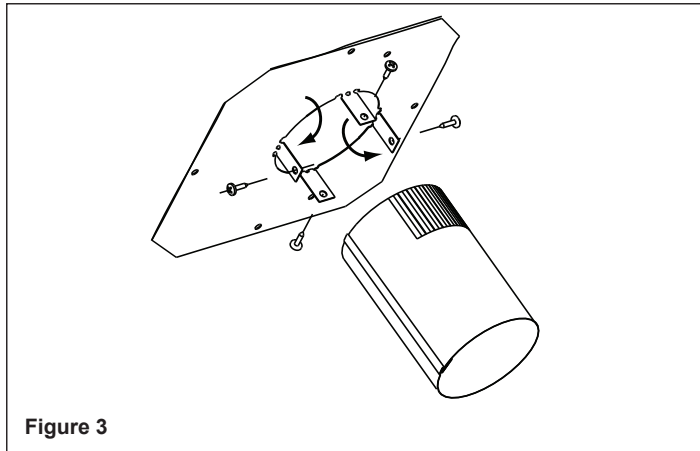

Figure 3
- On the mounting plate, hand bend the tabs downward. Slide the tabs over the outside of the starter pipe. Secure with four sheet metal screws included in fasteners package. Figure 3.